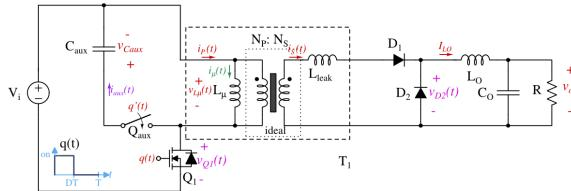

Figure 3.1: Forward converter with active clamp.
Figure 3.1 shows a forward converter with active clamp. The main switch Q is modulated ON/OFF with a duty cycle D . The auxiliary switch Q_{aux} is turned ON/OFF oppositely to the main switch (while avoiding shoot-through of course). The function of the clamp circuit (comprising Q_{aux} and C_{aux}) is to reset the transformer core.
- Simulate the converter in Figure 3.1 in LTspice and plot assuming $V_i = 50$ V, $f_s = 100$ kHz, $D = 0.25$, $N_P = 14$, $N_S = 7$, $L_\mu = 125 \mu\text{H}$, and $I_{LO} = 10$ A. Make $C_{aux} = 10 \mu\text{F}$ and assume it has an $ESR = 100 \text{ m}\Omega$. - You can consider all the devices (except the transformer and C_{aux}) as ideal.